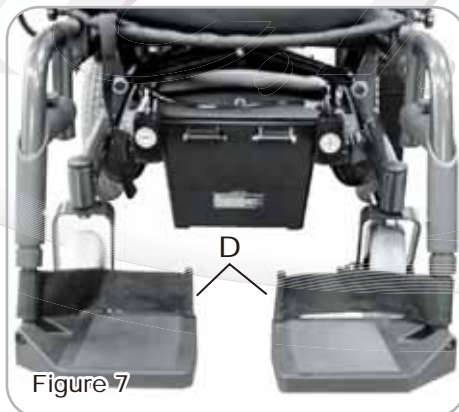

Figure 7
Remove the (D) Leg Band (Accessory).by tear off the Vel-Cro to release the Leg Band (See Fig. 7)